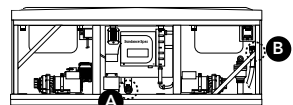

Figure 13.3c
4. Locate one of the two drains that you would like to use, Figure 13.3c. Either the Quick Drain (A) or the 3/4" drain valve (B). Once you choose a draining method, follow the procedures for that method.